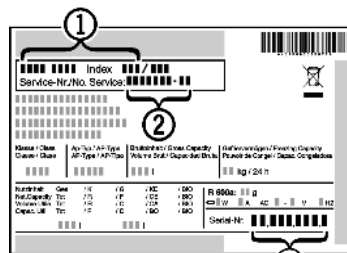

Fig. 12
- ▶ Read the appliance designation *Fig. 12 (1)*, service No. *Fig. 12 (2)* and serial No. *Fig. 12 (3)* off the type plate located inside the appliance on the left-hand side.
- ▶ Notify the customer service, specifying the fault, appliance designation *Fig. 12 (1)*, service No. *Fig. 12 (2)* and serial No. *Fig. 12 (3)*.